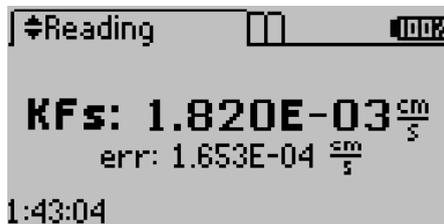

Figure 21 Results screen
- **Results Screen.** After a test is complete, the Results screen replaces the Status screen. It shows the resulting  $K_f$  of the test (Figure 21). The error (err) value also appears on the Results screen. The err is the standard error of the  $K_f$  reading and represents the amount of noise in the measurement. Press UP and DOWN to change Reading screens or press the POWER/MENU button to navigate to the Configuration tab.